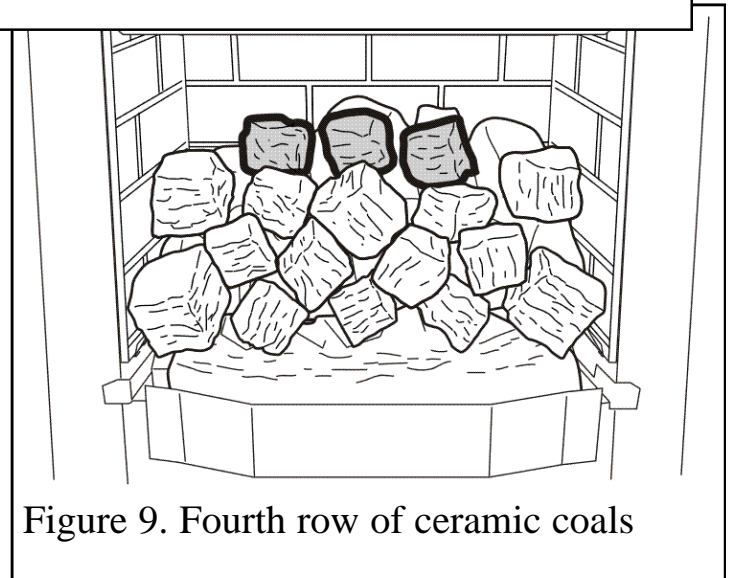

Figure 9. Fourth row of ceramic coals
8. Locate a small ceramic coal behind the central medium ceramic coal. This should be held in place between the medium ceramic coal and the ceramic base coal (See figure 9). Locate the remaining small ceramic coals each side of that located previously. These should sit behind and be held in place by the small ceramic coals in front.